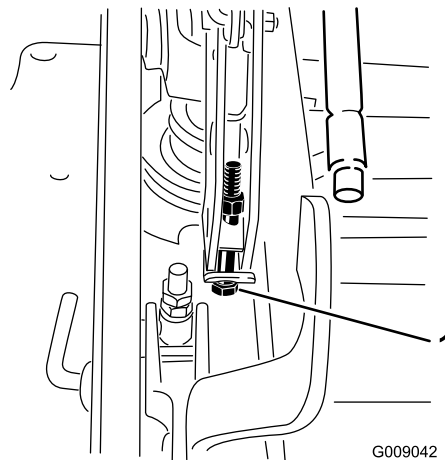

Figure 94
12. If the deck is too low, tighten the single-point-adjustment bolt by rotating it clockwise. If the deck is too high, loosen the single-point-adjustment bolt by rotating it counterclockwise (Figure 94).